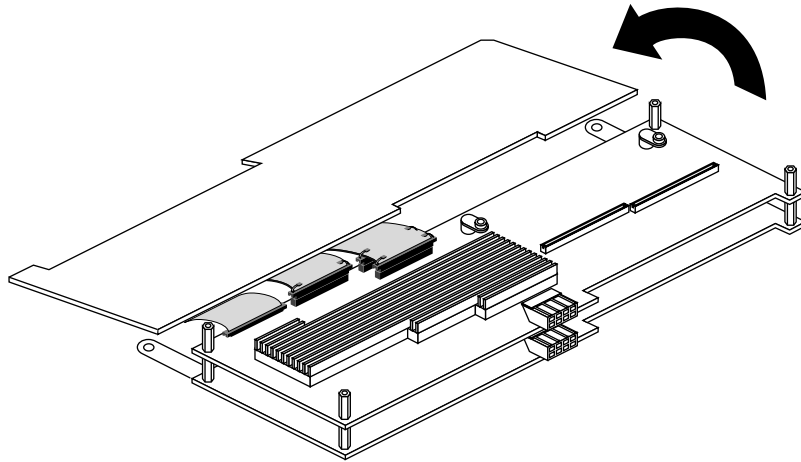

Figure 5-34 Rotating the Top Board to an Open Position
5. Grasp the top board on the back edge, opposite the side with pull straps, and gently rotate until the edge of the top board rests on the antistatic surface. See Figure 5-34.